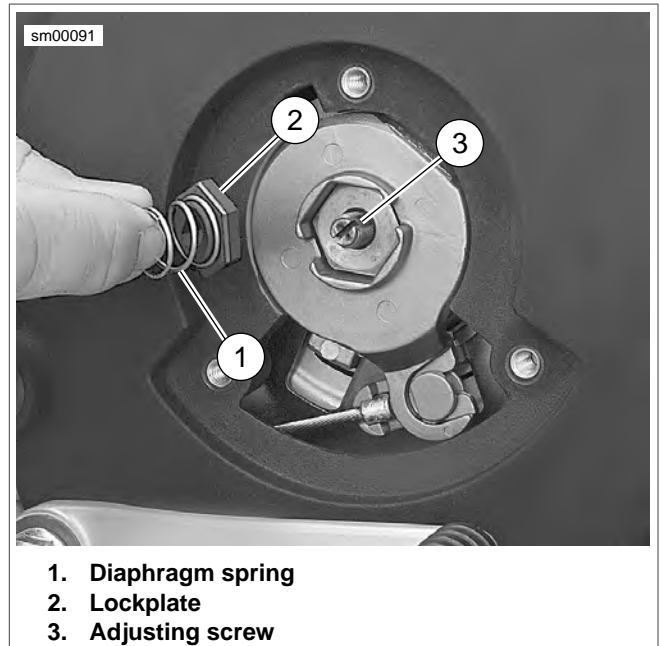

Figure 1-28. Clutch Adjustment: XB Models
4. See Figure 1-28. Remove spring (1) and lockplate (2). Using a flat tip screwdriver, turn adjusting screw (3) counterclockwise until it lightly bottoms.